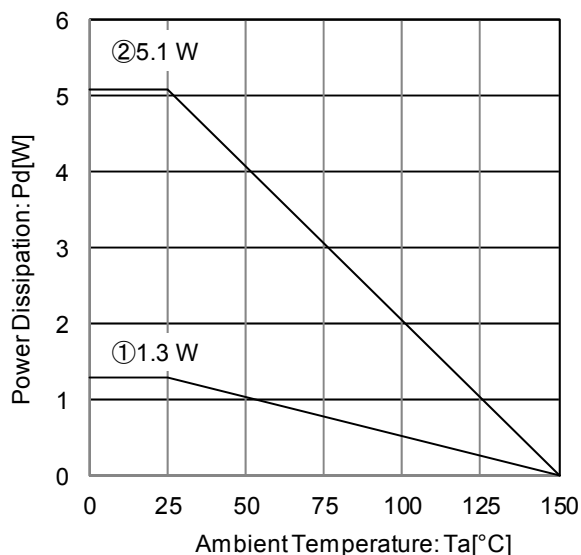

Figure 26. Package Data
At Ta=125°C with Figure 26 ② condition, the calculation shows that ca 100mA of output current is possible at 10.2V potential difference across input and output.
At Ta=125°C with Figure 26 ② condition, the calculation shows that ca 120mA of output current is possible at 8.5V potential difference across input and output.